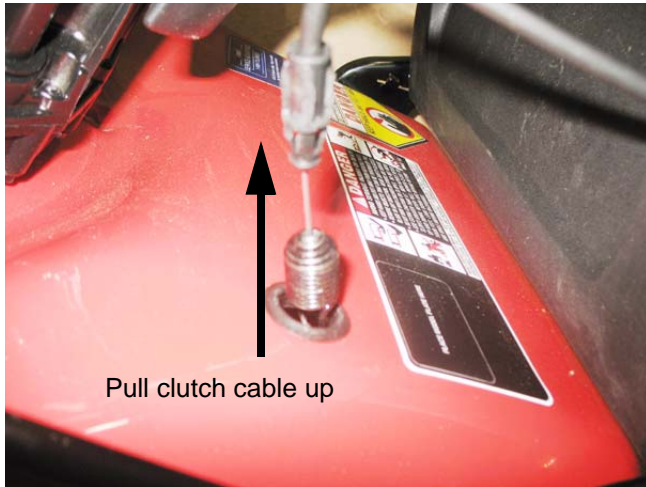

Figure 5.19
5. Pull the cable and spring through the opening in the deck. See Figure 5.19.